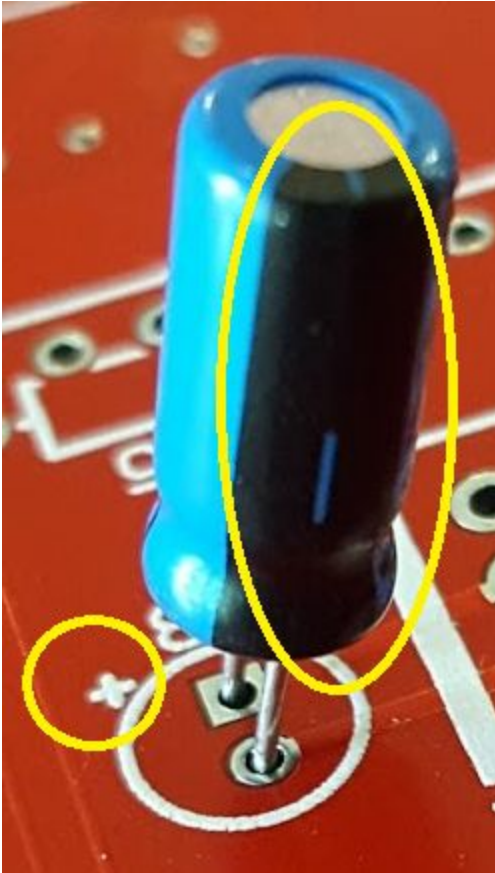

Fig4
9. Install the C1 2200uF capacitor. Ensure that it is oriented so that the negative post is installed on the opposite side of the board from the terminal marked positive. See Fig4.
10. Install the following 47uF capacitors. Ensure that it is oriented so that the negative post is installed on the opposite side of the board from the terminal marked positive. See Fig4.